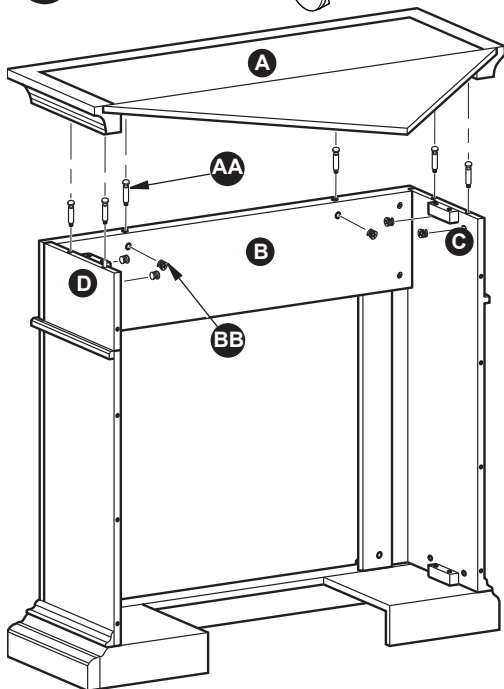

Figure 9
9. Insert Cam Locks (BB) into Panel (B), the Left Upper Panel (C) and the Right Upper Panel (D). Screw Cam Dowels (AA) into Top (A). Attach Top (A) into assembled frame by tightening the Cam Locks (BB) as shown in Figure 9.